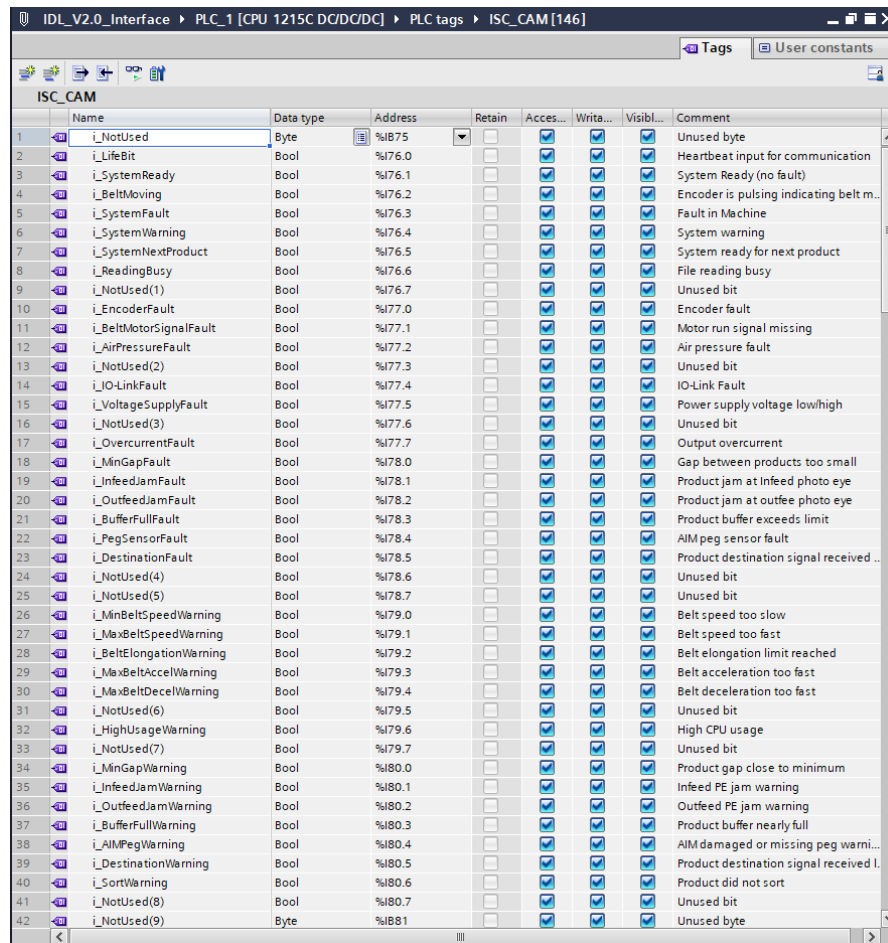

Figure 20: Input Address Change to Match ISC CAM Device
54. With the mouse pointer hover of the first input byte at the bottom right-hand corner of the "Address" "%IB75" until the pointer icon changes to a + icon press and hold the left mouse button. Then drag all the way to the last input word "i_ParameterValueMSW" "%IW530" and let go of the left mouse button. By doing this step all the PLC tags shall change addresses to match the "I address" of the ISC CAM device, Figure 20.